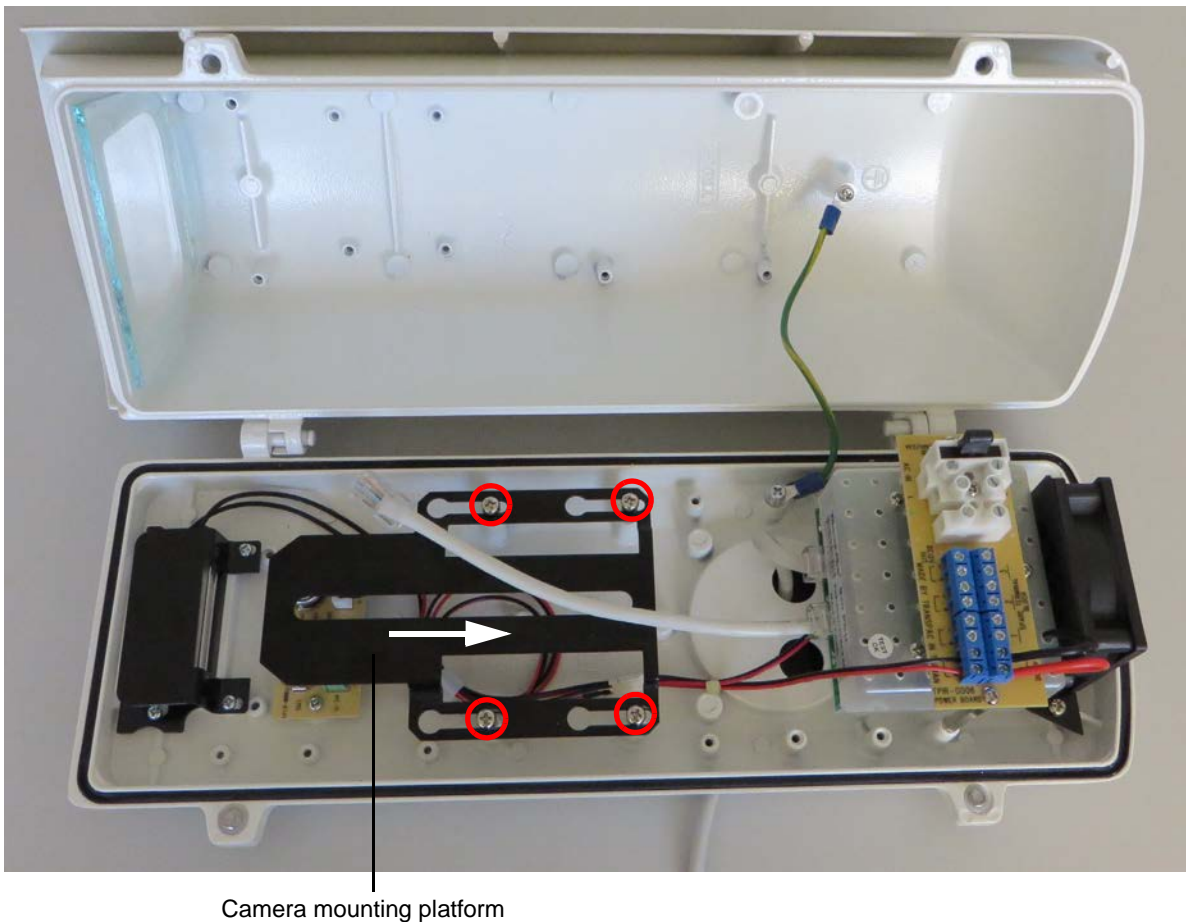

Fig. 9: Removing the Camera Mounting Platform
In order to install a Basler IP camera inside the housing, you have to remove the camera mounting platform (see Fig. 9) from the housing.
1. Slightly loosen the four screws (circled in red in Fig. 9) that hold the platform in place. Don't remove the screws completely.
2. Slide the camera mounting platform along the screws in order to line up the screws with the holes in the platform (in the direction of the arrow in Fig. 9).